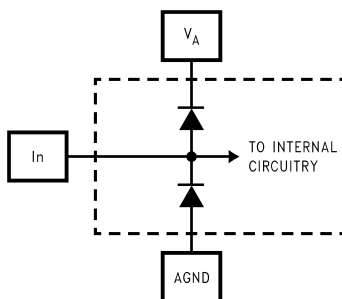

Figure 2.
- (1) The inputs are protected as shown below. Input voltage magnitude up to 300 mV beyond the supply rails will not damage this device. However, errors in the A/D conversion can occur if the input goes beyond the limits given in these tables. See Figure 2
- (2) Typical figures are at $T_J = 25^\circ C$, and represent most likely parametric norms.
- (3) Test limits are specified to TI's AOQL (Average Outgoing Quality Level). Performance is ensured only at $V_{REF} = 1.0V$ and a clock duty cycle of 50%. The limits for V_{REF} and clock duty cycle specify the range over which reasonable performance is expected. Tests are performed and limits specified with clock low and high levels of 0.3V and $V_D - 0.3V$, respectively.